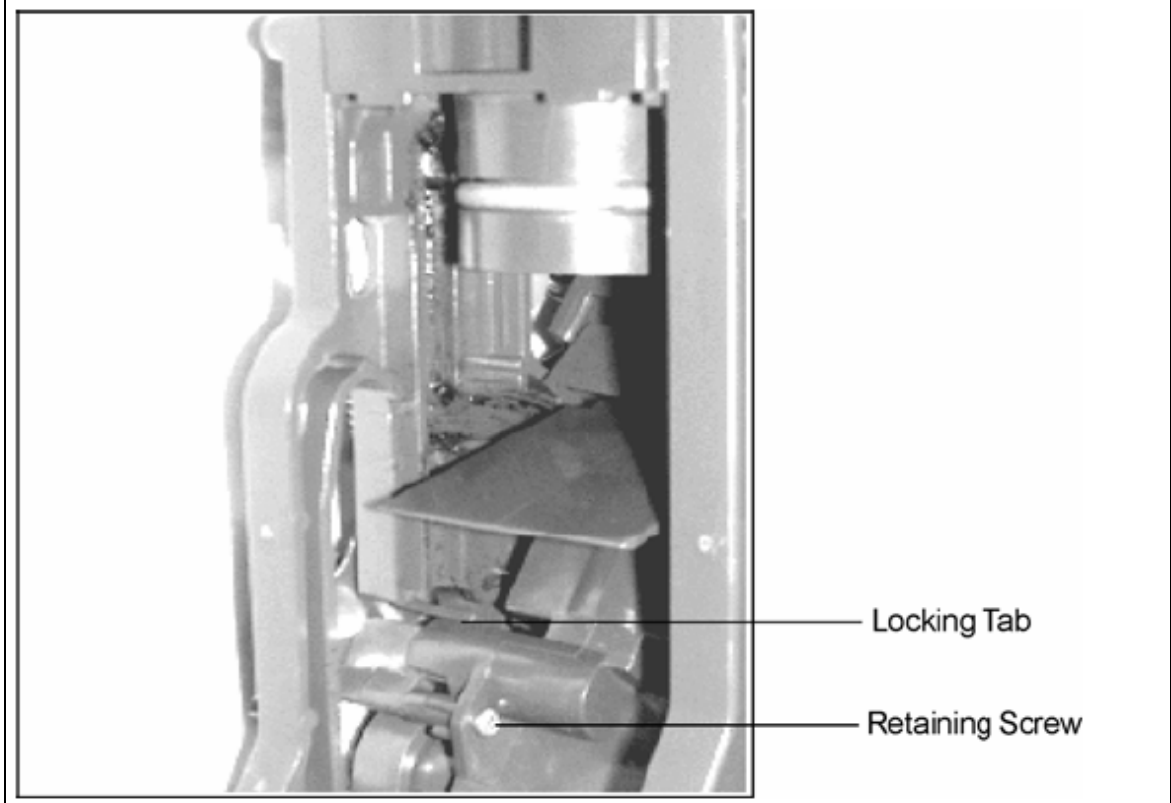

Figure 5-21: Brew Unit Connection Socket
6. Use a small flathead screwdriver to lift up on the locking tab (Figure 5-21).